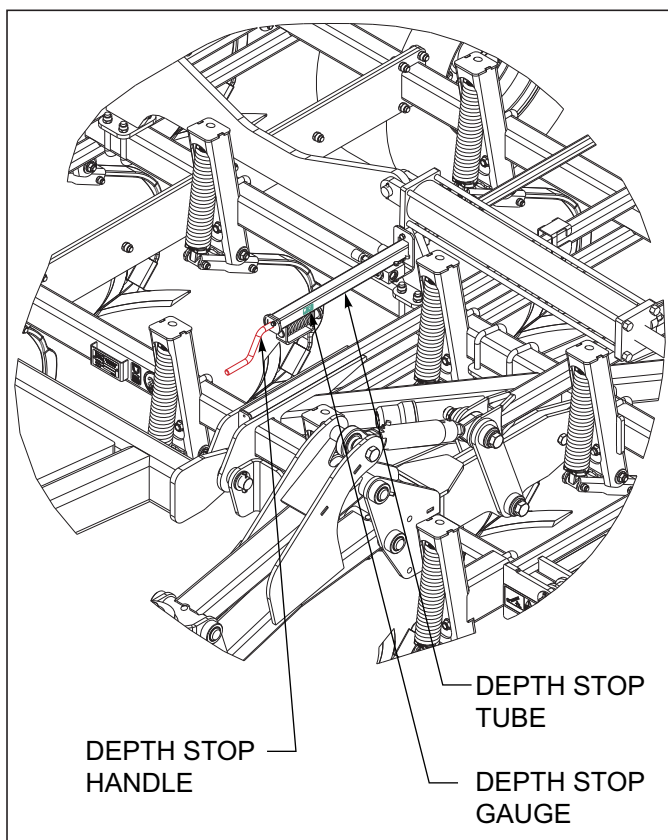

Figure 4-8: Depth Stop Adjustment
1. The operating depth of the Field Cultivator is controlled by a single-point depth stop. The stop is located at the center front of the machine *See Figure 4-8.*